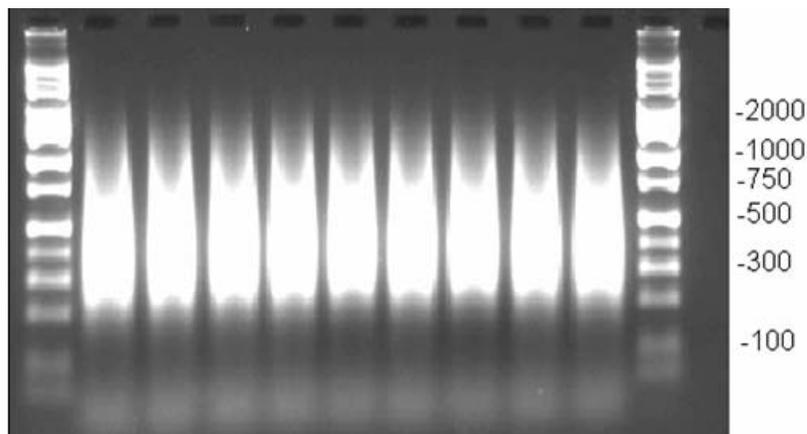

Figure 5.6 Example of PCR products run on 2% TBE agarose gel at 120V for 1 hour. Average product distribution is between ~200 to 1100 bp.
11. Verify that the PCR product distribution is between ~200 bp to 1100 bp (see Figure 5.6 on page 195).